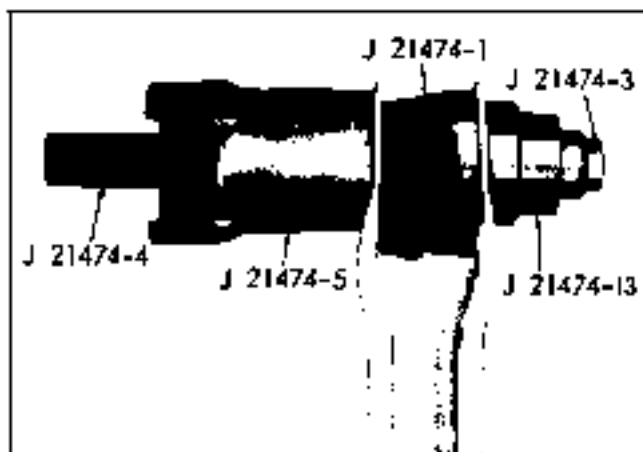

Fig. 4-8 Installing Upper or Lower Control Arm Bushing Except Firebird
1. Install bushing in control arm by arranging tools as shown in Fig. 4-8 and press into place.
3. Install bushing in control arm by arranging tools as shown in Fig. 4-8 and press into place.
1. Install bushing using components of tool J 21474 as shown in Fig. 4-8.